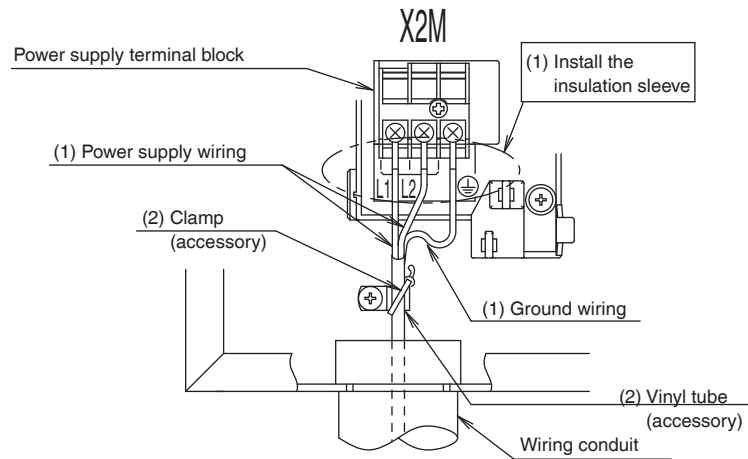

Fig. 4
- (1) Install an insulation sleeve to the power supply wiring/ground wiring and be sure to connect them to the power supply terminal block.
- (2) For the power supply wiring/ground wiring, use the clamp (accessory) to secure them inside the tank control board so that no external force is applied to the terminal, as shown in Fig. 4.